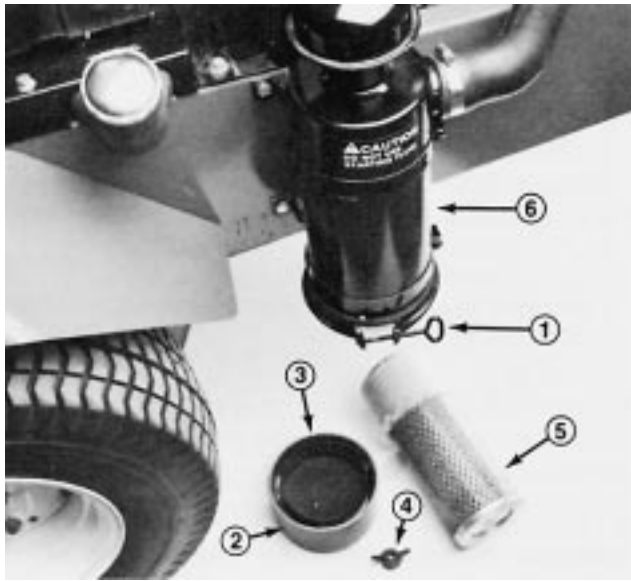

Figure 30
1. Loosen thumb screw until dust cup and baffle can be removed (Fig. 30). Separate dust cup and baffle (Fig. 30).
2. Remove wing nut w/gasket and slide filter element out of air cleaner body (Fig. 30).